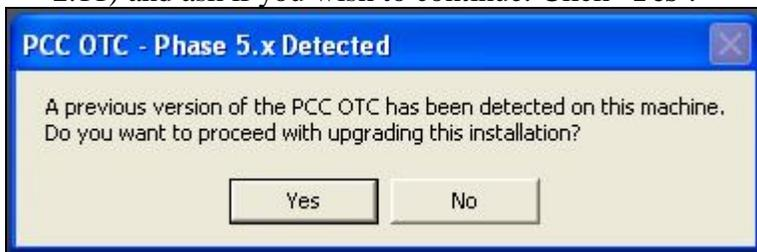

Figure 2.11
9. The screen should indicate that a previous version of PCC OTC has been detected (Figure 2.11) and ask if you wish to continue. Click ‘**Yes**’.